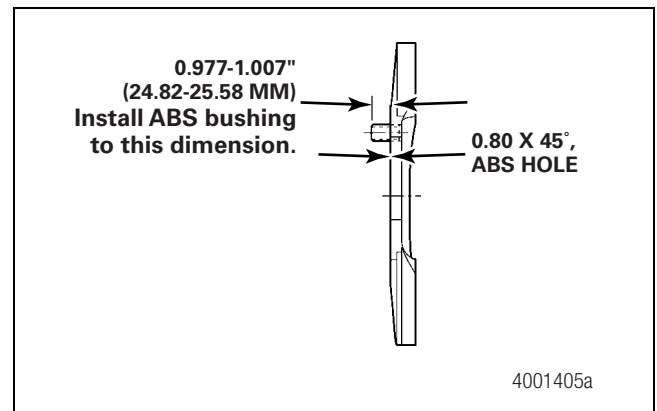

Figure 5.13
1. If the ABS sensor bushing was removed from the torque plate, use a suitable driver to install the bushing. The bushing must extend beyond the torque plate 0.977-1.007-inches (24.82-25.58 mm). Figure 5.13.